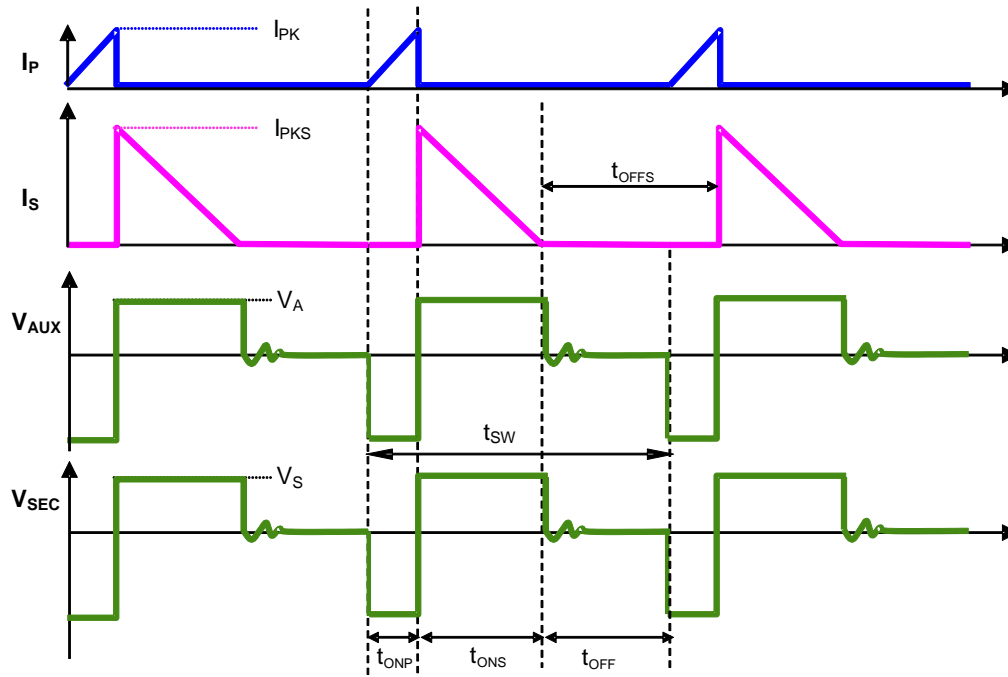

Figure 2. The Operation Waveform of Flyback PSR System
Figure 2 shows the typical waveforms which demonstrate the basic operating principle of APS39903 application. And the parameters are defined as following.
As illustrated in Figure 2, when the current $i_p(t)$ rises up to I_{PK} , the switch Q1 turns off. The constant peak current is given by:
The APS39903 can work in constant-current (CC) mode. Figure 2 shows the secondary current waveforms.